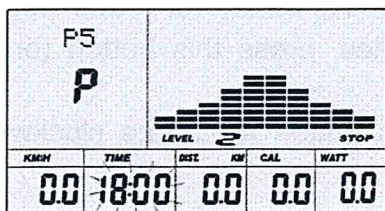

fig 26
C. The time setting will flash, and then press (or rotate) UP, DOWN button to set up your desired time. Press ENTER to confirm the value. (See fig 26)